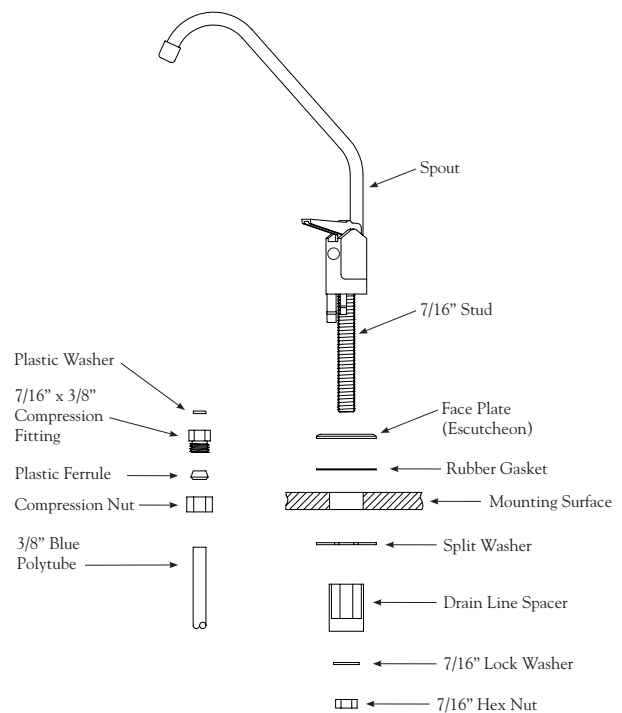

Figure 2
3. Assemble and attach the Faucet (Refer to Fig. 2, below.)
4. Locate the 3/8" Blue Product Water Tubing. Remove the blue plug from the the elbow connected to the fitting labelled "Out" on the manifold and insert the tubing. Run the tubing along its course to the Dispensing Faucet and trim to length. See Fig. 2, page 6 for proper installation.
- Check the Air Gap Window on the Dispensing Faucet to be sure that the drain water is flowing. (Refer to Figure 2, page 6.) The R.O. System is now making water.